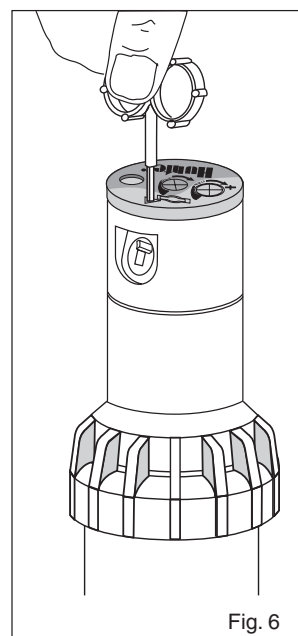

Fig. 6
Insert the steel hex end of the Hunter wrench into the radius adjustment screw (Fig. 6). Turn the screw clockwise (into the stream of water) to decrease the radius, or counterclockwise to increase the radius. Radius can be reduced up to 25%.
2. Using the hex key of the Hunter wrench, turn the radius adjustment screw (Fig. 6) counterclockwise to be sure it is not blocking the nozzle socket opening. If a nozzle is already installed, it can be removed by backing out the adjustment screw and turning on the water, or by pulling outward on the nozzle removal post with a pair of needle-nosed pliers.